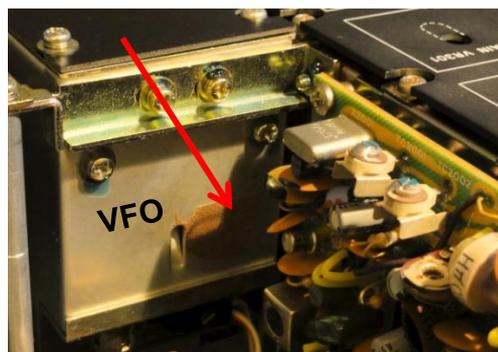

Figure 5
- Remove the adhesive tape that mechanically secures the 3-pin plug on the back of the VFO from falling out (see Figure 5).